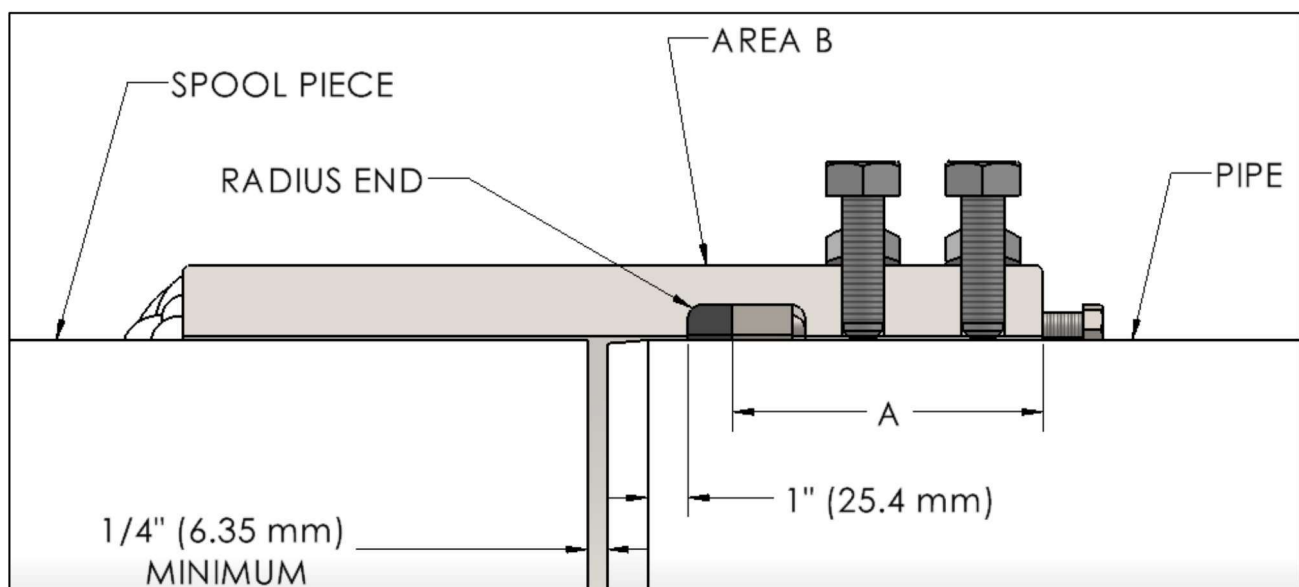

Figure 4
5. Measure and record dimension "A", as shown in Figure 4. This will be needed later if the PLIDCO Riser Weld+End is welded to the pipe.
7. Slide the Riser Weld+End with the pipe over the end of the pipe to which it will be mechanically joined until it bottoms out on the welded pipe. Next, back the Riser Weld+End away from the pipe at least 1/4" (6.35 mm). The end of the pipe or the start of the pilot bevel on the mechanical end must be beyond the seal groove by at least 1" (25.4 mm) as shown in Figure 4.